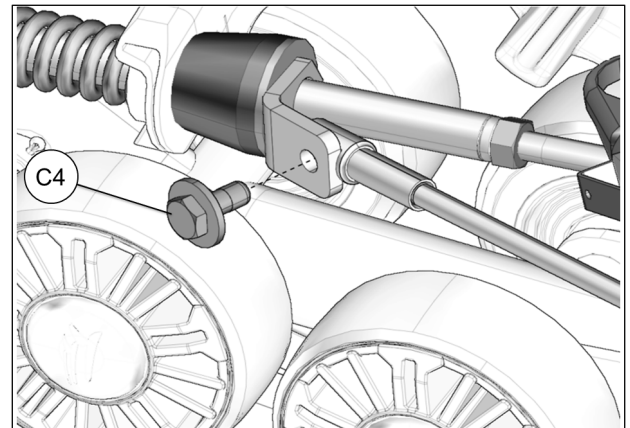

Fig. 24
13. Reverse steering wheel a little to be able to bolt support plate and cable together. Tighten provided bolt (C4) to 35 N•m [24 lb•ft]. See Fig. 24. Repeat steps on right side.